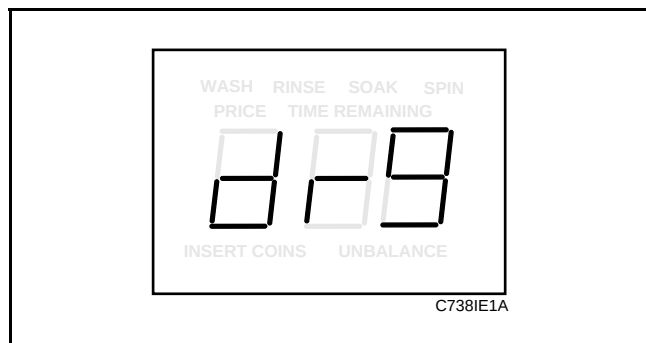

Figure 62
3. Press the DELICATES (+) pad or the COLD (-) pad to scroll through the programmable options until “drg” appears in the VFD. See **Figure 62**.